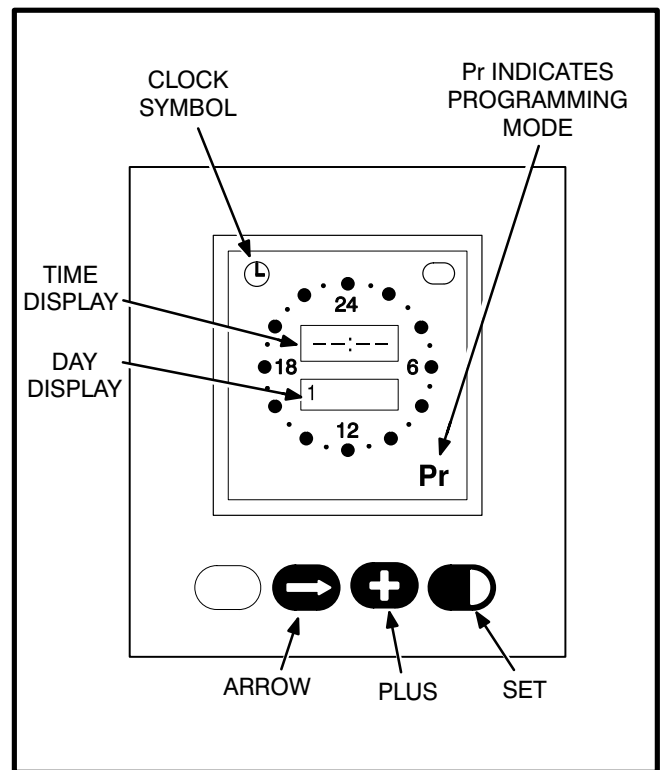

FIGURE 4-7. EXERCISER CLOCK
1. With the exerciser clock powered, press all three buttons simultaneously to reset the time. The time display area will show (— : —) and a small clock symbol will appear in the upper left corner of the display. Refer to Figure 4-7.